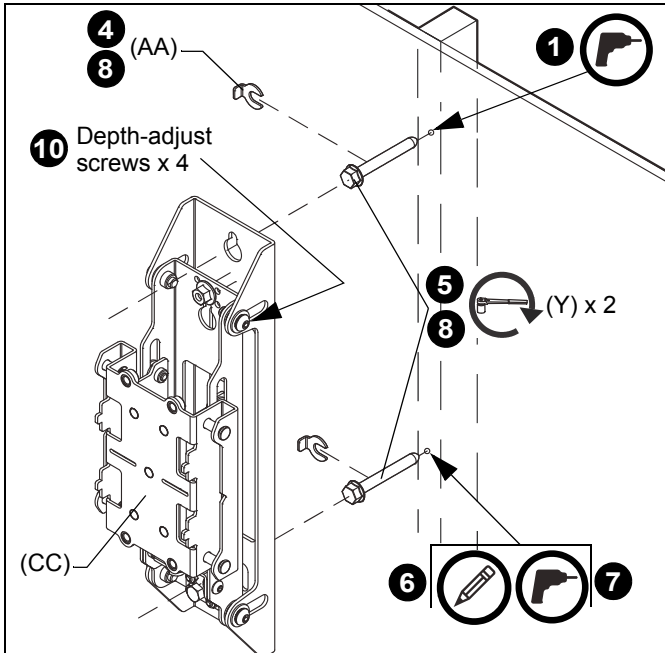

Figure 8
1. Drill one 7/32" (5.5mm) pilot hole in stud at upper mounting slot. (See Figure 8)
2. Partially install one 5/16 x 2-3/4" flanged lag bolt (Y) into pilot hole but do not tighten to wall.
3. Hang outside wall upright (CC) aligning upper mounting slot over lag bolt and level upright.
4. Place one slotted washer (AA) over flanged lag bolt. (See Figure 8)
5. Tighten lag bolt to secure wall upright (CC) to wall at upper mounting slot. (See Figure 8)
6. Mark the attachment point for the lower mounting slot, making sure the attachment point is located on the stud. (See Figure 8)
7. Drill 7/32" (5.5mm) pilot hole at marking for lower mounting hole. (See Figure 8)
8. Use one 5/16 x 2-3/4" flanged lag bolt (Y) and one 5/16" slotted washer (AA) to attach each wall upright to the wall through the lower mounting hole. (See Figure 8)
10. Adjust depth of wall uprights, if necessary, so that the face of the wall uprights are all in the same plane across the width of wall upright installation: (See Figure 8)